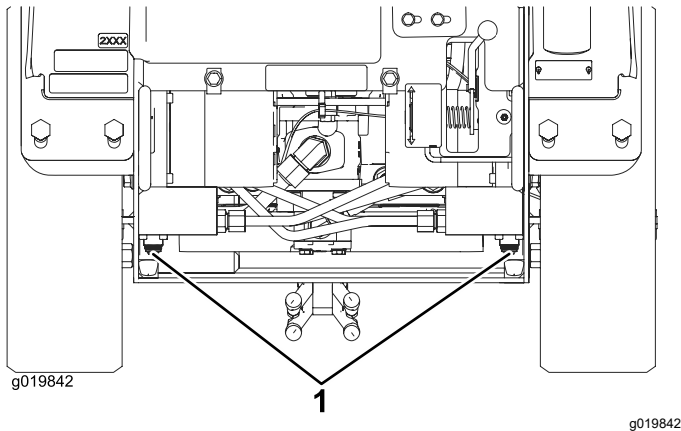

Figure 21
4. Using a wrench, turn the tow valves on the hydraulic pumps twice counter-clockwise (Figure 21).